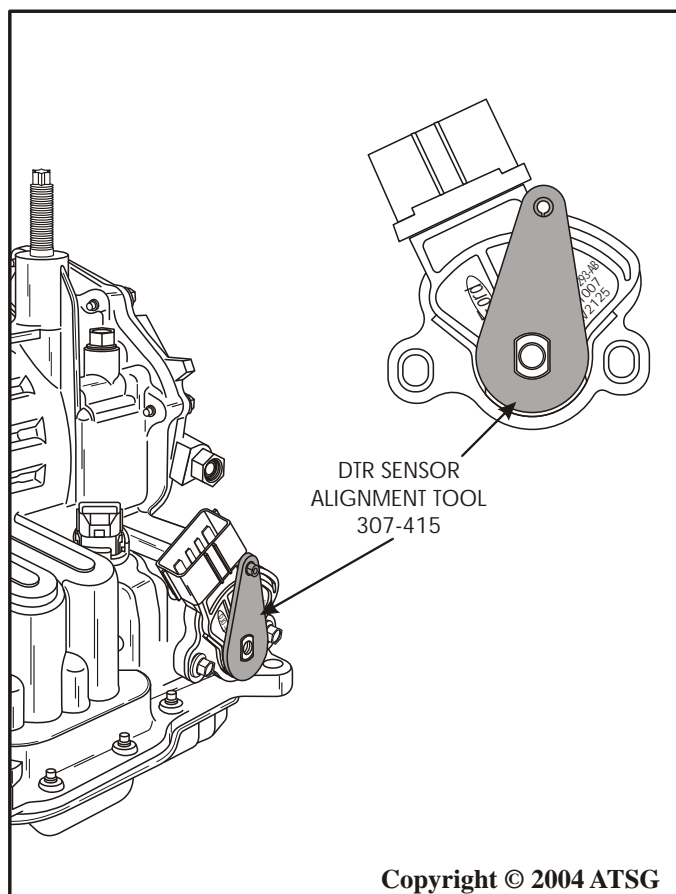

Figure 192
6. Install the transaxle range sensor alignment tool 307-415, as shown in Figure 192.
Note: Alignment tool must be over the flats on manual shaft and dowel in the hole in range sensor (See Figure 192).